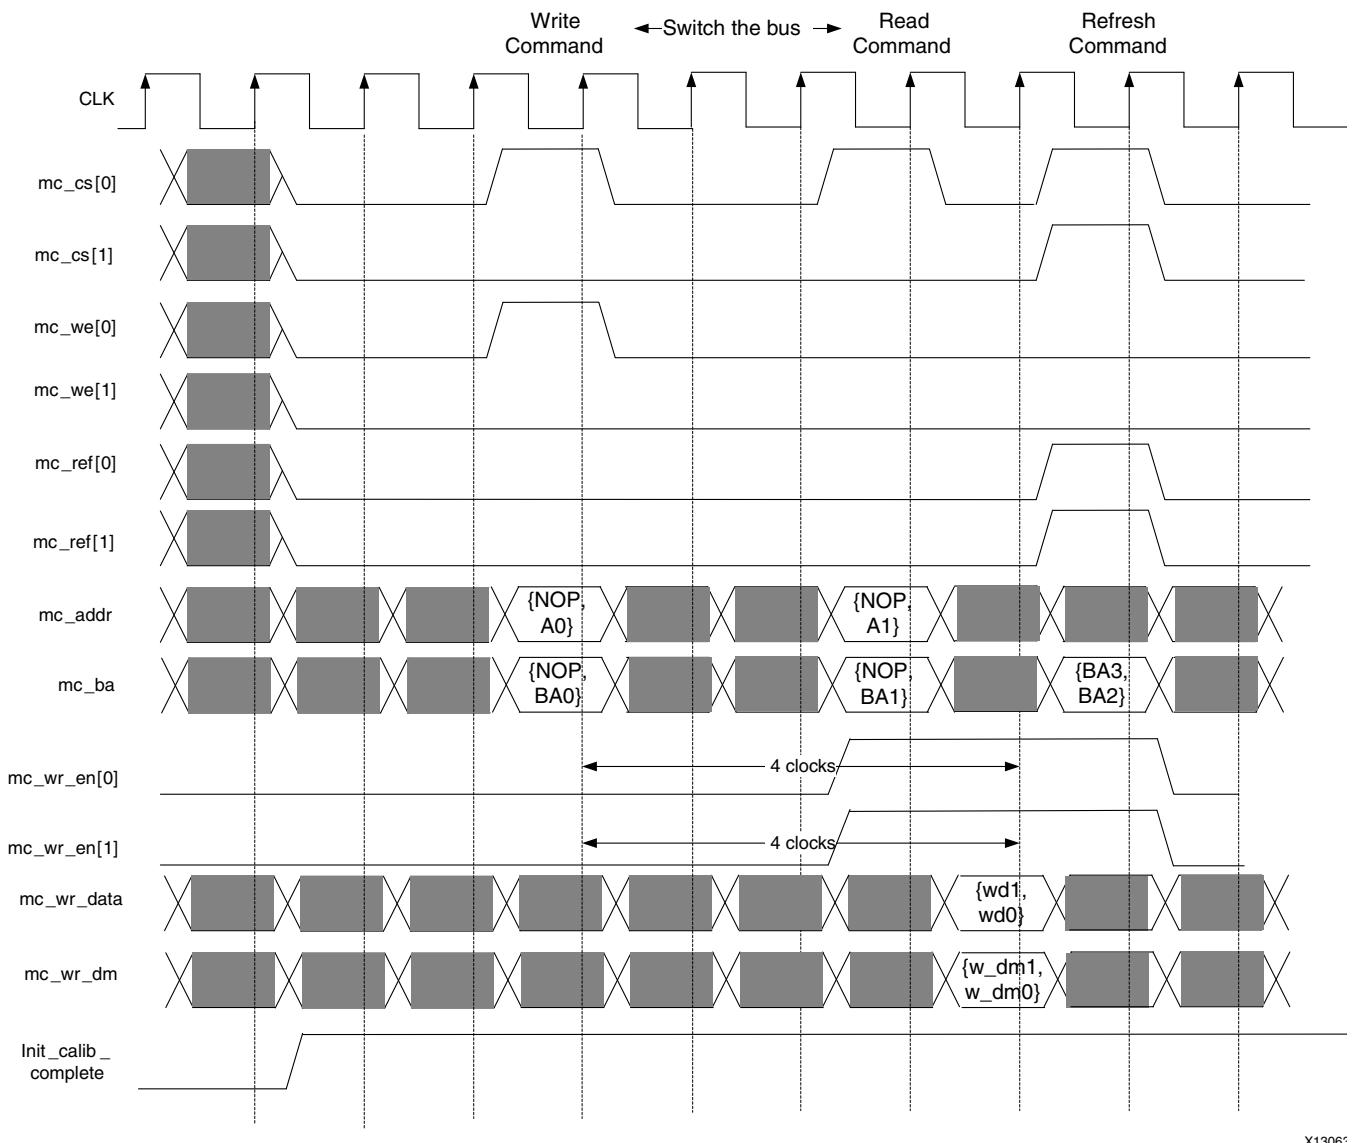

Figure 3-46: PHY-Only Interface for RLDRAM II Burst Length 4, Configuration 3, and Address Multiplexing OFF
Figure 3-46 shows the timing diagram for a typical RLDRAM II configuration 3, burst length of four with commands being sent to the PHY from a controller. After `cal_done` is asserted, the controller begins issuing commands. A single write command is issued by asserting the `cs0` and `we0` signals (with `ref0` being held Low) and ensuring that `addr0` and `ba0` are valid. Because this is a burst length of four configuration, the second command that must be issued is a No Operation (NOP), that is, all the control signals (`cs1`, `we1`, `ref1`) are held Low.